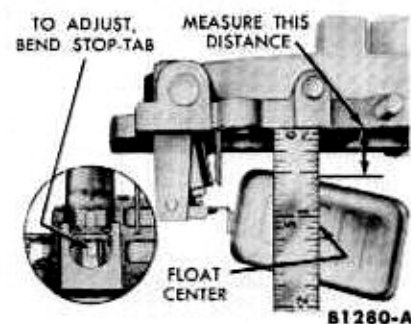

FIG. 45—Float Drop
1. With the air horn held in an upright position, measure the distance between the top of each float and the air horn gasket at the center of each float (Fig. 45). The distance should be $\frac{3}{32}$ inch.